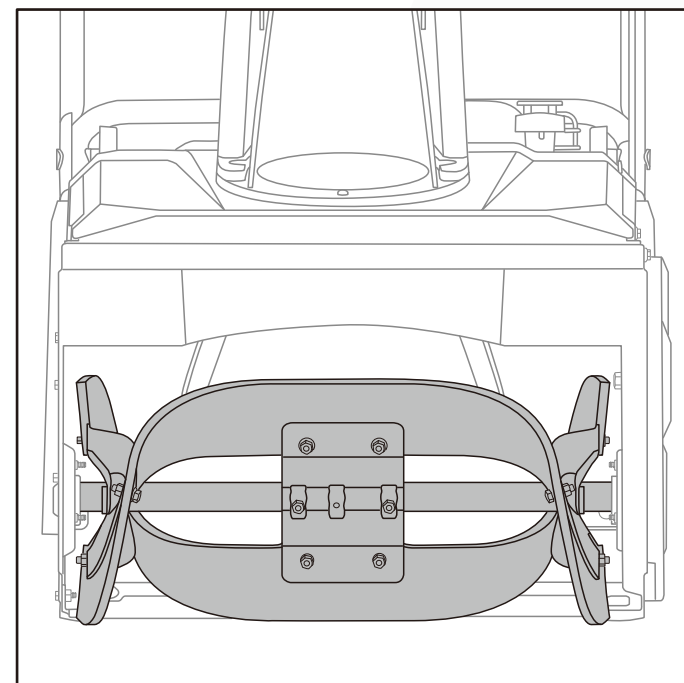
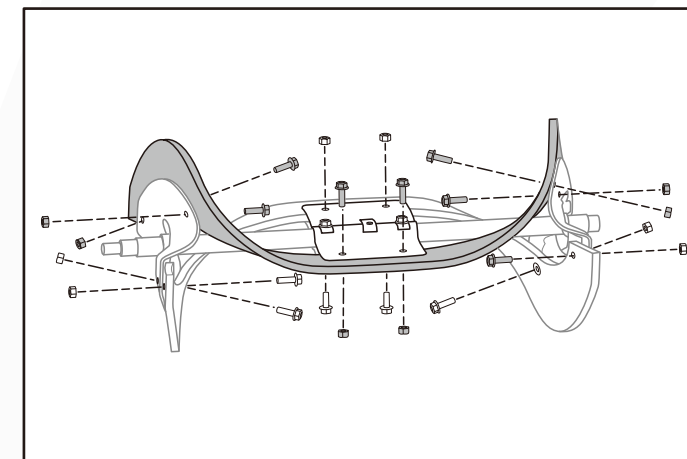

Fig.15A
Fig.15B
3. Remove one of the existing rubber paddles by loosening the 6 screws that attach them to the auger. (Fig.15A/Fig.15B)